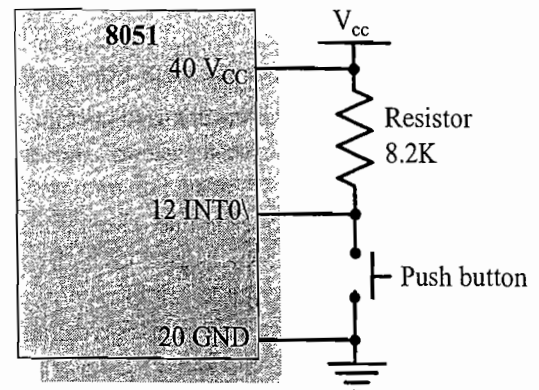

Fig. 5.22 Hardware setup for single stepping program with external interrupt
5.3.7.9 Single Stepping Program with the Help of External Interrupts Single stepping is the process of executing the program instruction by instruction. This can be achieved with the help of the external interrupt 0 or 1 and a small firmware modification. This works on the basic principle that an interrupt request will not be acknowledged if an interrupt of equal priority is in progress and if the instruction in progress when the interrupt is asserted is a RETI instruction, the vectoring will happen only after executing an instruction from the main program, which is interrupted by the interrupt. If the external interrupt is in the asserted state, the interrupt vectoring happens after executing one instruction from the main program. This execution switching between the main program and ISR can be achieved by a simple ISR firmware modification. Connecting a push button switch to the external interrupt line 0 through a resistor is the only hardware change needed for a *single step* operation (Fig. 5.22). Configure INT0 as level triggered in firmware. Activating the push button asserts the INT0 interrupt and the processor starts executing the ISR for interrupt 0. At the end, the ISR waits for a 1 to 0 transition at the INT0 line that asserts the external interrupt 0 again. The next instruction that is going to be executed on asserting the INT0 is *RETI* and according to the general interrupt vectoring principle the processor will go back to the point in the main code where it got interrupted and after completing one instruction it will again come back to the INT0 ISR. This process is repeated.